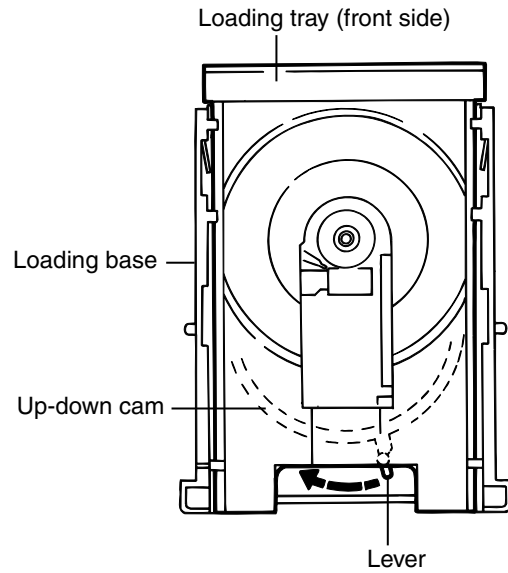

Fig.2
### ■ Removing the loading tray (See Fig.2~4)
1. Turn the up-down cam lever clockwise (in the direction of the arrow in Fig.2) to lower the position of the mechanism.